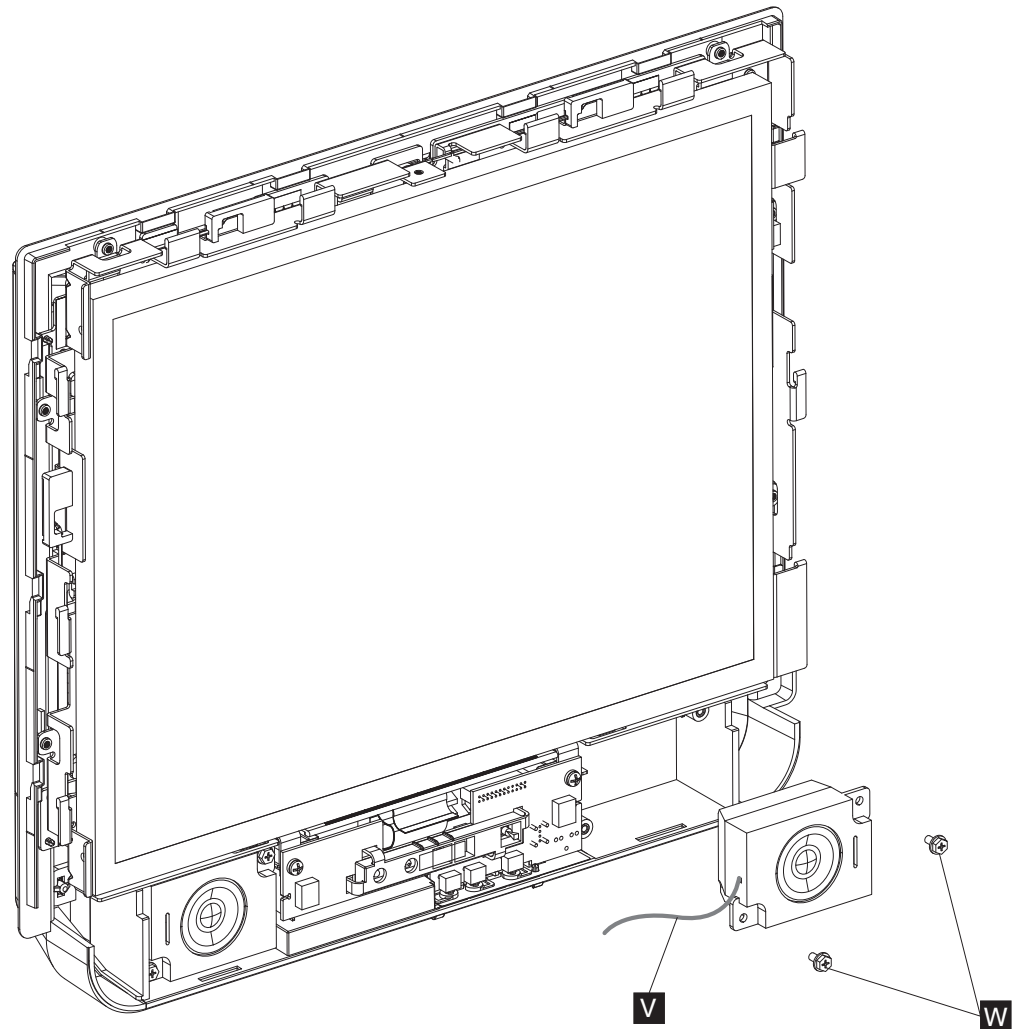

Figure 32. Removing the speakers
3. Remove the two screws (**W** in Figure 32) that retain each speaker and lift to remove.